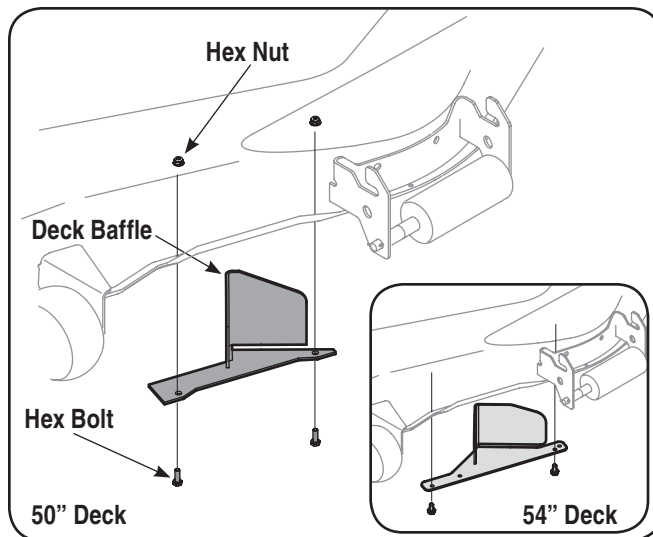

Figure 4-18
2. Install the front deck baffle using the hardware pack 689-00163 included with this bagger kit. See Figure 4-18.